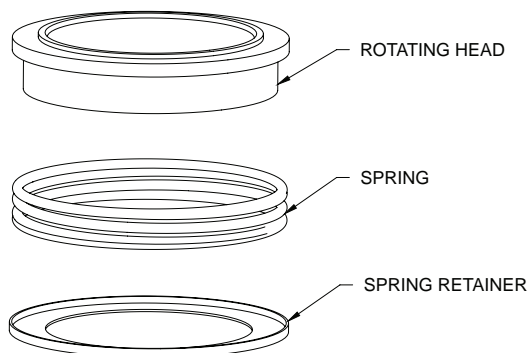
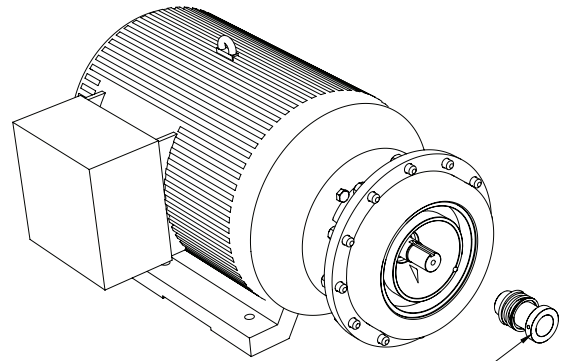

Figure 42
Figure 43
13. Slide sleeve (#25) and O-ring (#10) with the rotating parts of the mechanical seal (Refer Figure 42) from the shaft. See Figure 43.